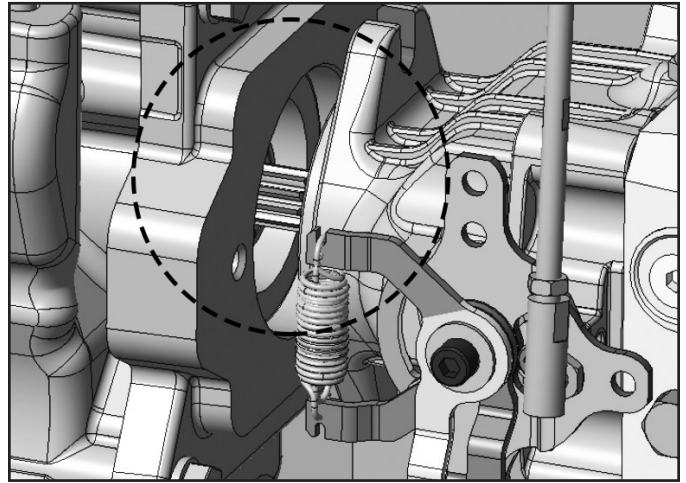

Figure 50: Pump drive shaft
5. Pull on pump assembly to slide it towards right tire of the machine. Exposing the drive shaft of the pump. See **Figure 50**.